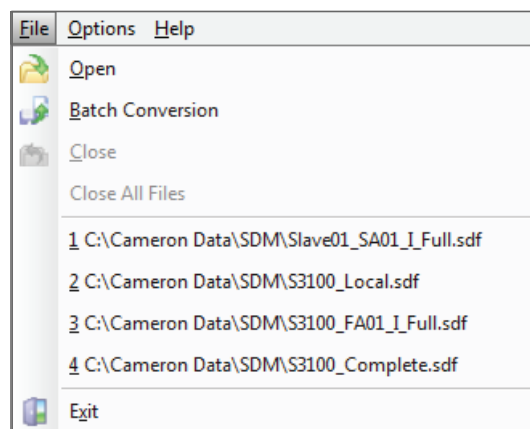
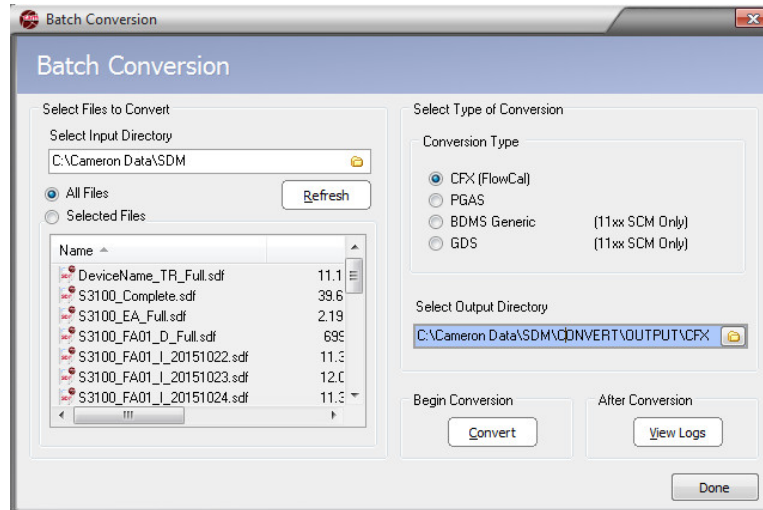

Figure 5.7—File>Batch Conversion
Figure 5.8—Batch Conversion dialog
- Output files that are successfully converted are stored in the user-defined directory that is entered on the *Batch Conversion* screen (see Figure 5.8, page 67).
2. Choose **File>Batch Conversion** from the main screen (Figure 5.7). The *Batch Conversion* dialog will appear (Figure 5.8, page 67).